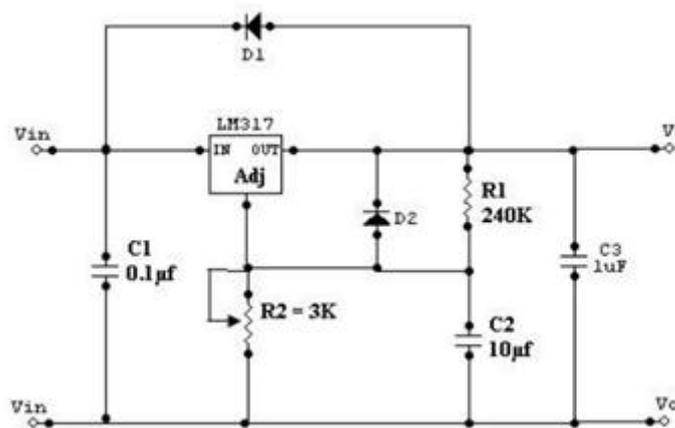

Figure 5.5.2 Practical Regulator
- Practical Regulator is shown in figure 5.5.2. If LM317 is far away from the input power supply, then $0.1\mu\text{f}$ disc type or $1\mu\text{f}$ tantalum capacitor should be used at the input of LM317.